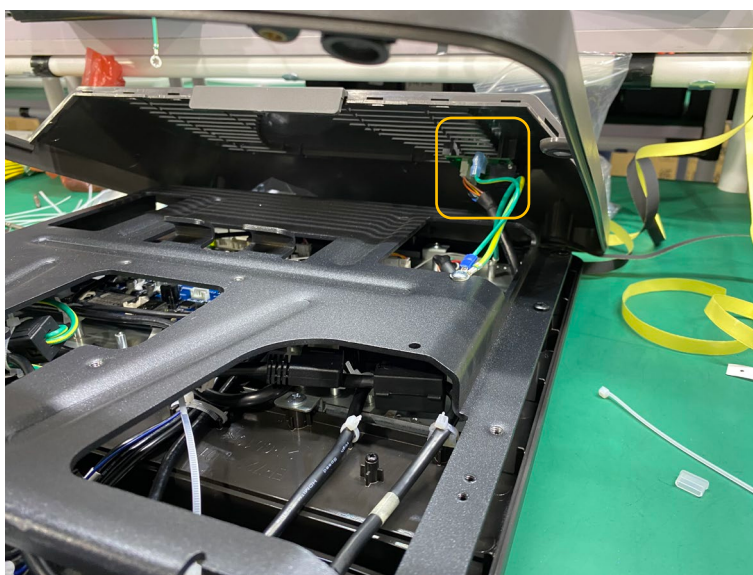

Figure 3
4. Gently lift the back cover and remove the C-Safe connection wire and ground wire that are connected to the back cover (Fig. 3).